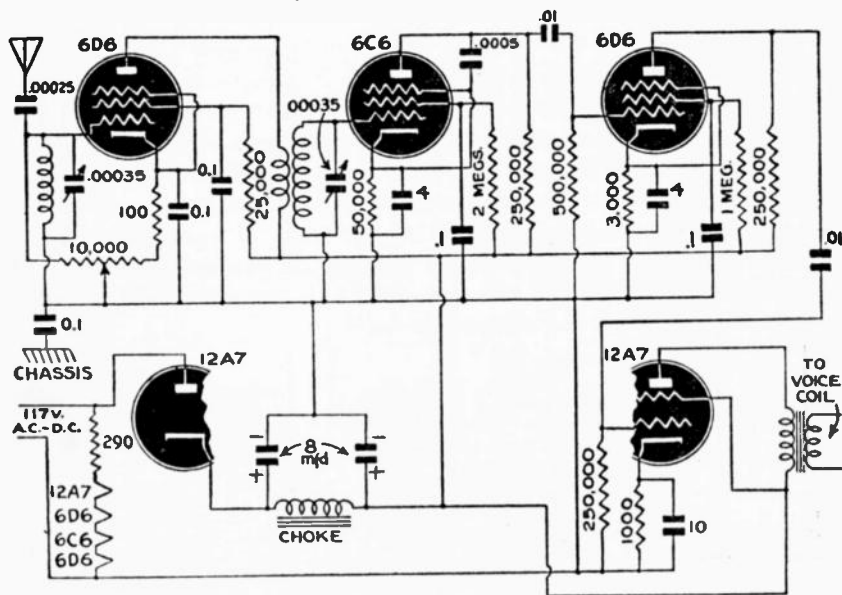

Fig. 115
A. The schematic is shown in Fig. 115. Choke may be an ordinary a.c.-d.c. choke or the field of a loudspeaker, if the latter is fairly low in resistance. Check to be sure your line-cord resistor is the right size.